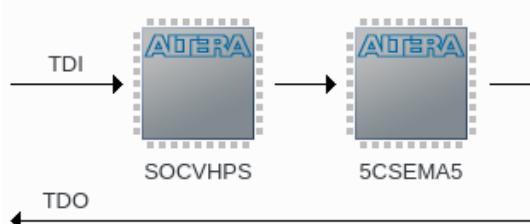

Figure 9-22. JTAG Scan Chain
You should now see 2 devices on the JTAG scan chain, as shown in Figure 9-22.
44. Right-click on the “5CSEMA5” device shown in Figure 9-22 and choose “Edit > Change File”. Then, select “DE1\_SoC\_demo/hw/quartus/output\_files/DE1\_SoC\_demo.sof” through the file browser.